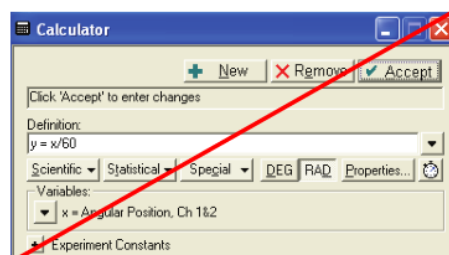

Figure 1.3: Create a Calculation
- ~~3. In the data acquisition program, use the Calculator to create a calculation of Actual Angular Position based on the Angular Position measurement made by the Rotary Motion Sensor and the ratio of the radius of the Spectrophotometer’s Degree Plate to the radius of the small post on the Pinion (Fig. 1.3). (Refer to the Set Up section for more information.)~~